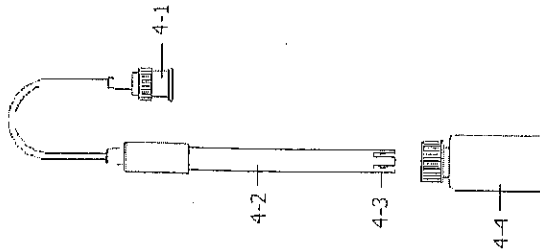

Fig. 2
- 2) Prepare the pH Electrode ( optional ), install the " Probe Plug " ( 4-1, Fig. 2 ) into the " pH Socket/BNC Socket " ( 3-14, Fig. 1 ).
- 4) Hold the " Electrode Handle " ( 4-2, Fig. 2 ) by hand and let the " Sensing head " ( 4-3, Fig. 2 ) immersed wholly into the measured solution and little shake the electrode.
**When not use the Electrode, it should immerse the " Electrode sensing head " ( 4-3, Fig. 2 ) into the " Protection bottle " ( 4-4, Fig. 2 )**
- 1) Prepare the pH Electrode ( optional ), install the " Probe Plug " ( 4-1, Fig. 2 ) into the " pH Socket/BNC Socket " ( 3-16, Fig. 1 ).
- 4) Hold the " Electrode Handle " ( 4-2, Fig. 2 ) by hand and let the " Sensing head " ( 4-3, Fig. 2 ) immersed wholly into the measured solution and little shake the probe. Display will show the pH value.